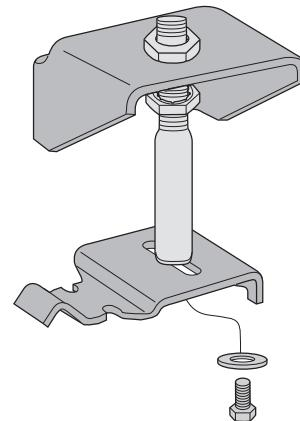

fig. 5
2. Secure the upper bracket (B) to the installation tool (D) using the provided nylon nut (F) (fig. 5).
3. Loosely attach the tool to the lower bracket (C) using $1/2$ " flat washer (H) and $1/2$ " bolt (G). Refer to fig. 5. Leave loose for adjustment.